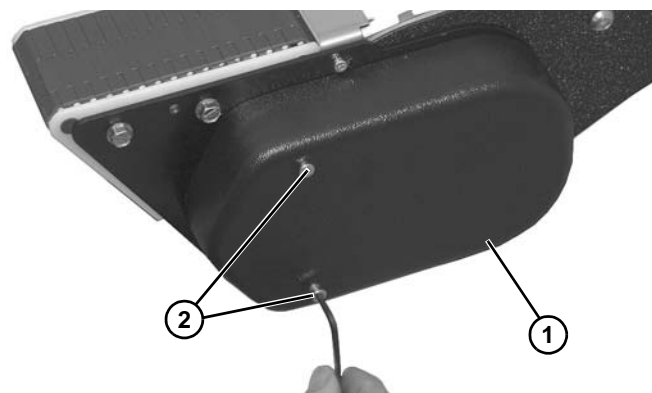

Figure 183
12. Install cover (**Figure 183, item 1**) with two socket head screws (**Figure 183, item 2**).